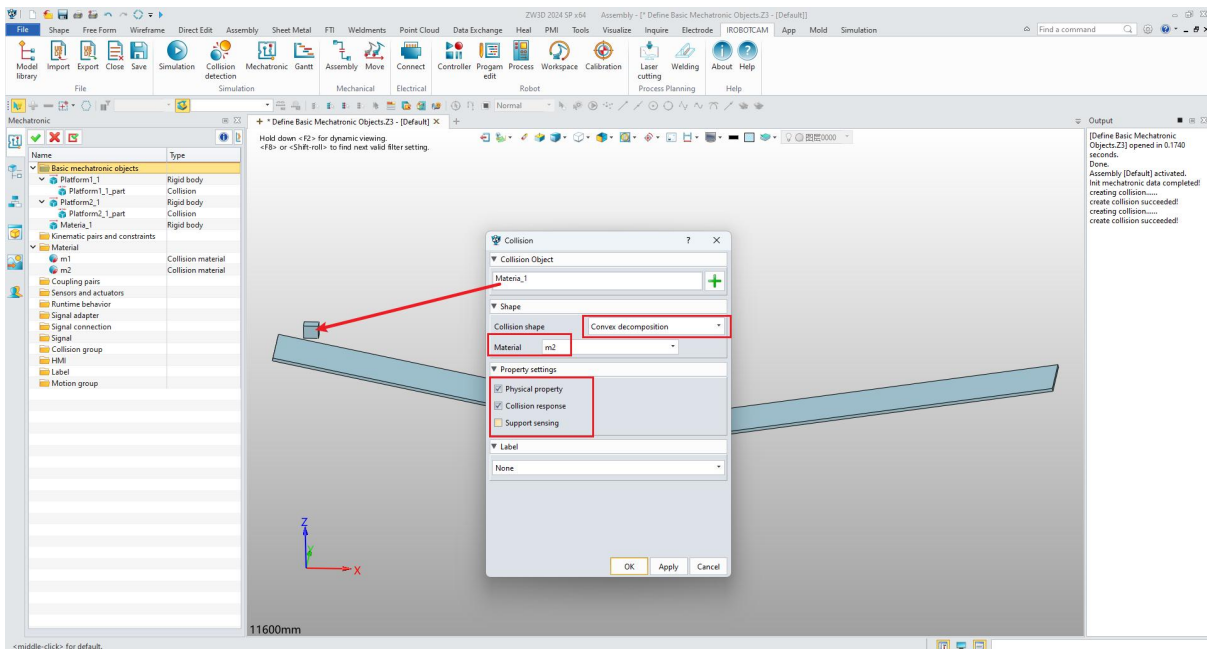

Figure 5-13: Add Materia collision body
- Select "m2" for the collision material. (Figure 5-13)